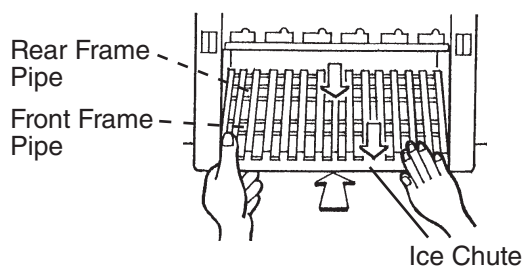

Fig. 43
13) Position and lock the ice chute onto the front and rear frame pipes by pushing the ice chute down until it clicks onto both frame pipes. See Fig. 43.